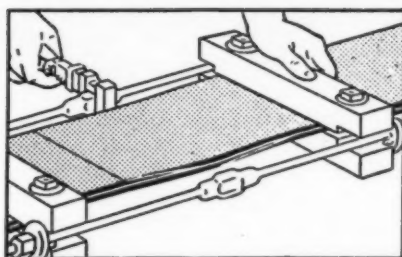

Figure 16
1. Apply belt clamps at field splice and tighten rods to relieve tension on it. The belt is then ready to be opened (Fig. 16).